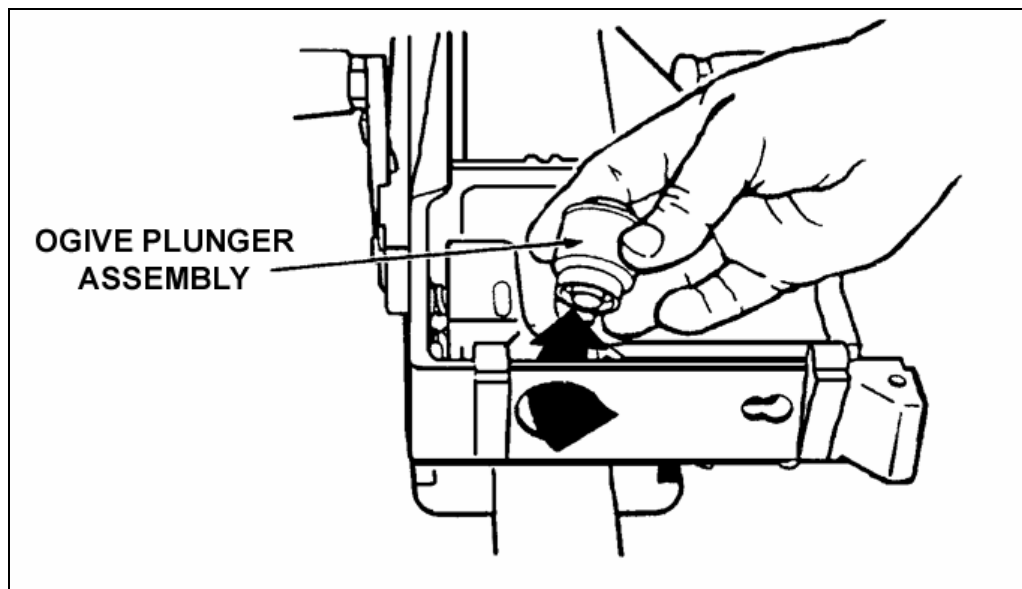
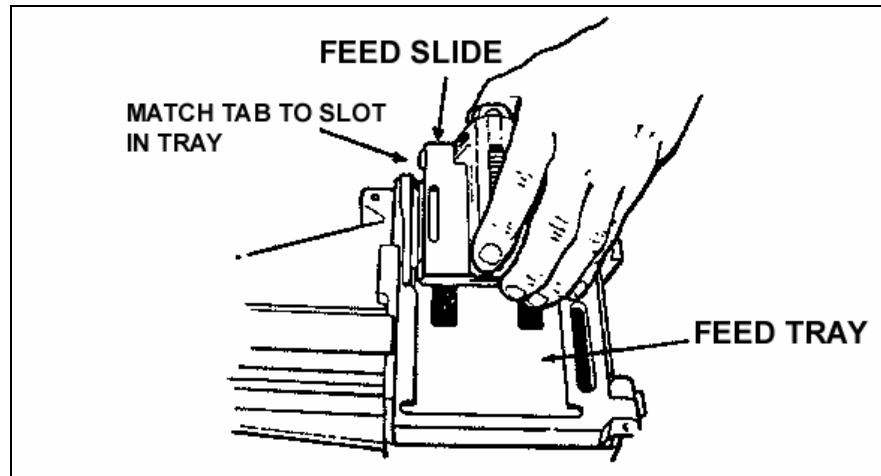

Figure 2-16. Ogive plunger.
Figure 2-23. Feed slide assembly.
(6) Take out the ogive plunger by pulling it out through the inside wall of the receiver (Figure 2-16).
- (1) Install left and right hand charger assemblies by following these procedures:
- (2) Install round-positioning block. Insert pins into the slots on the receiver and slide the block forward until the pins lock into the small sections of the holes.
- (3) Install the ogive plunger assembly. Insert ogive plunger as shown in Figure 2-16.
- (4) Install alignment guide assembly by following these procedures:
- (5) Install feed tray and feed slide assembly by following these procedures (Figure 2-23):